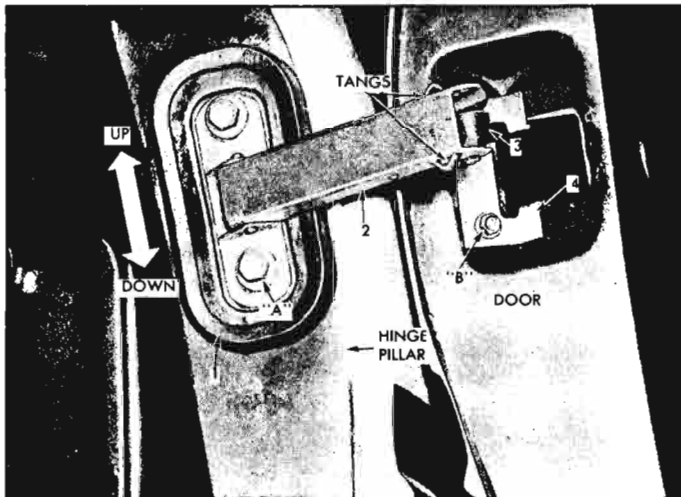

Fig. 10-83a—Rear Door Check Assembly
1. Open rear doors and remove retaining bolts at ("A", fig. 10-83a) and remove check assembly and retainer plate and dust seal.
NOTE: Door check assembly can be adjusted up and down as shown in Figure 10-83a.